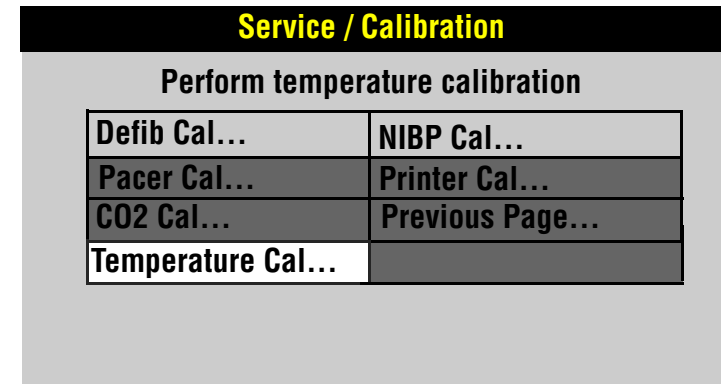

Figure 6.3—Calibration selection
3. Select CALIBRATION from the Service menu. The screen shown in Figure 6.3 appears.